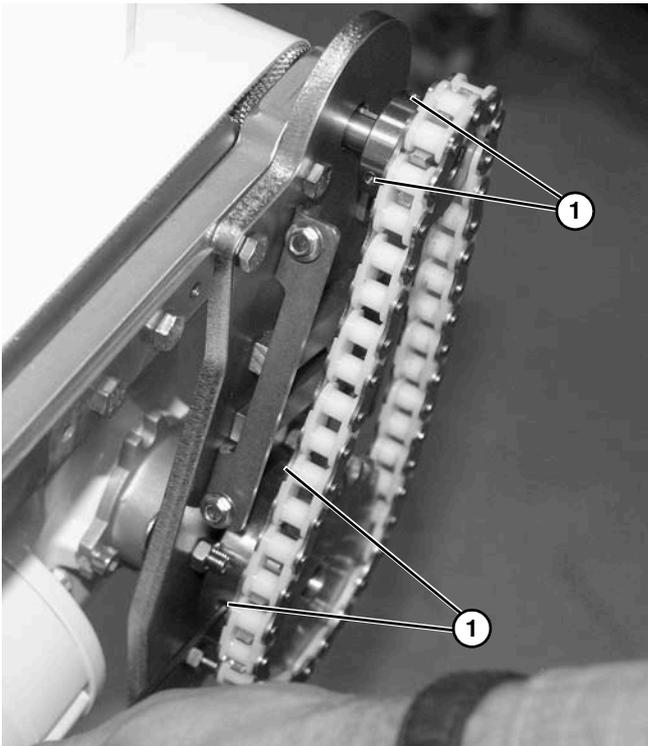

Figure 59
5. Loosen four set screws (Figure 59, item 1).